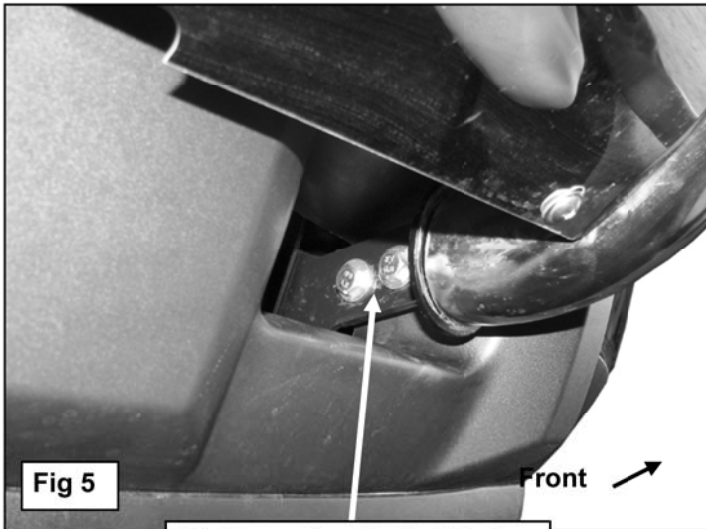

Fig 5
Bar Brackets to the Frame Brackets using the included (4) 10mm x 30mm Hex Bolts, (4) 10mm Lock Washers and (4) 10mm Flat Washers, **(Figure 5)**. **NOTE:** Do not tighten hardware at this time.